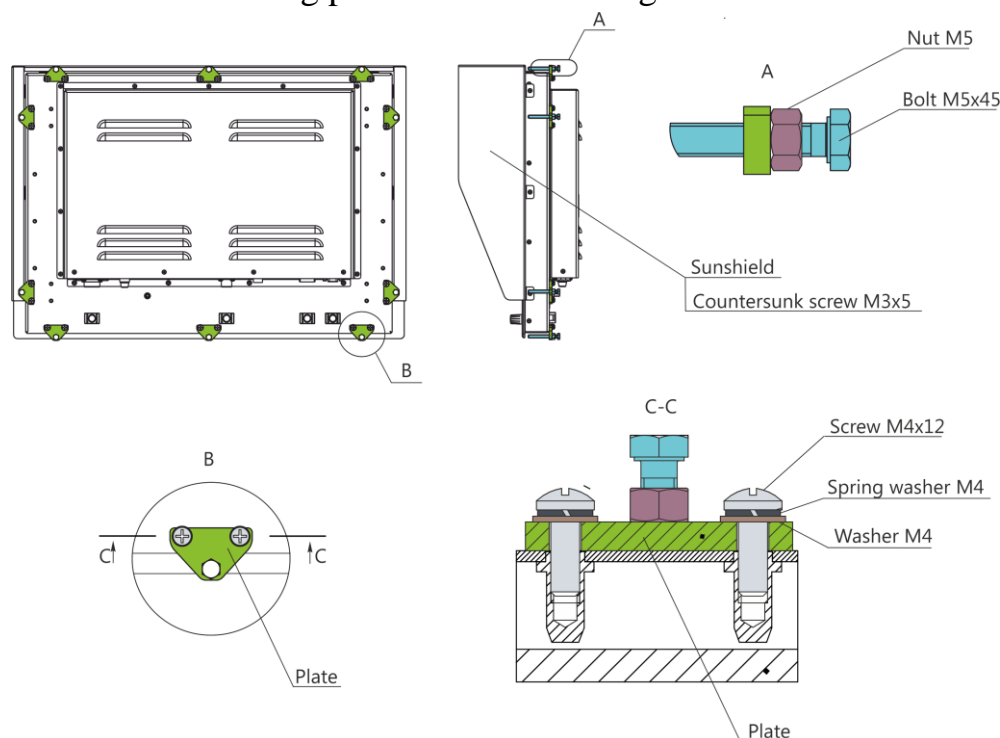

Figure 4 – Panel mounting with inner fastenings
2) Panel mounting with inner fastenings (see Figure 4) ensures fastening from the inner panel of console using plates and a mounting kit of metal ware.